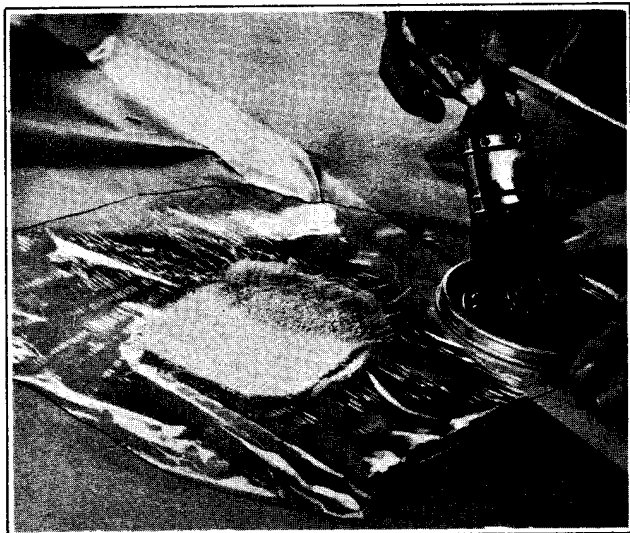

Figure 2-57. Applying Resin to Mat
6. Mix a small amount of pre-accelerated resin and catalyst and daub resin on mat, thoroughly wetting it out. This may be done on a piece of cellophane or wax paper. See Figure 2-57.